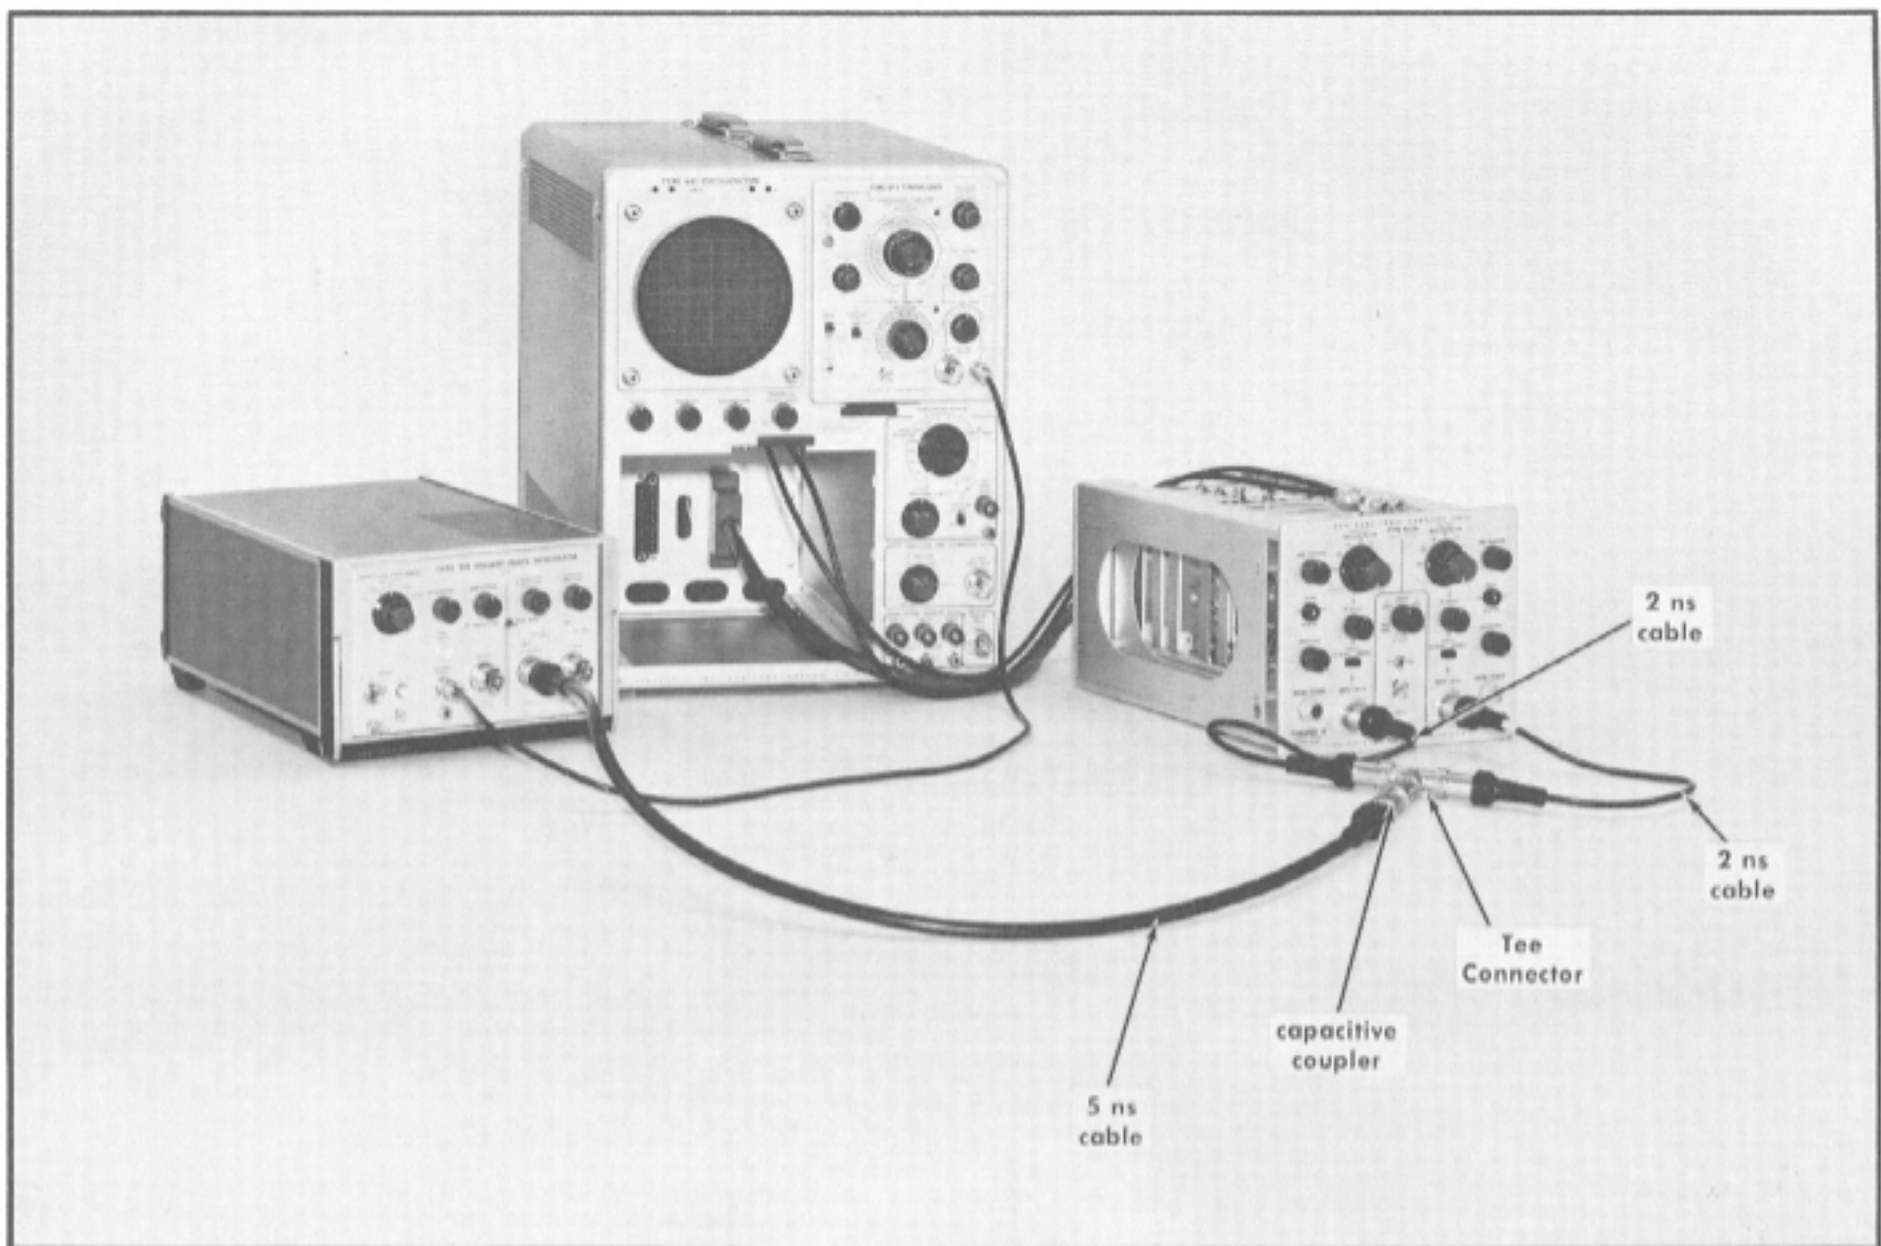

Fig. 6-28. Test equipment setup for step 19.
- a. Test equipment setup is shown in Fig. 6-28.